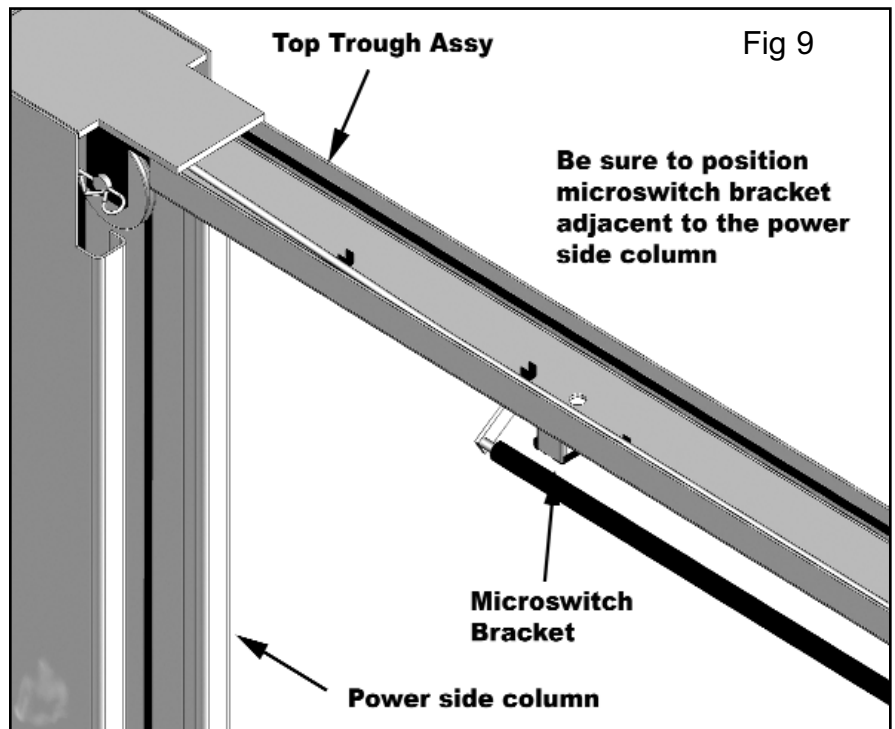

Fig 9
2. Using a lifting devise, raise the OVERHEAD beam into position on top of the columns. Bolt to the columns using the 10 mm Hex Bolts, Nuts and Washers. **YOU MUST** POSITION THE SWITCH ENCLOSURE ADJACENT POWER-SIDE COLUMN. (Fig 9)